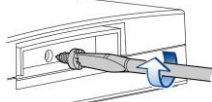

Fig.1
IP55 degree of protection is provided in conditions when the lid is closed. If only switches are installed and if there is no need for further lid opening, then lid could be permanently closed by using a locking screw that is mounted on the inside of the front of the housing (Fig.1). This prevents damage to the protection degree due to unintentional opening or negligent handling.
- If necessary, put the locking screw (Fig.1).